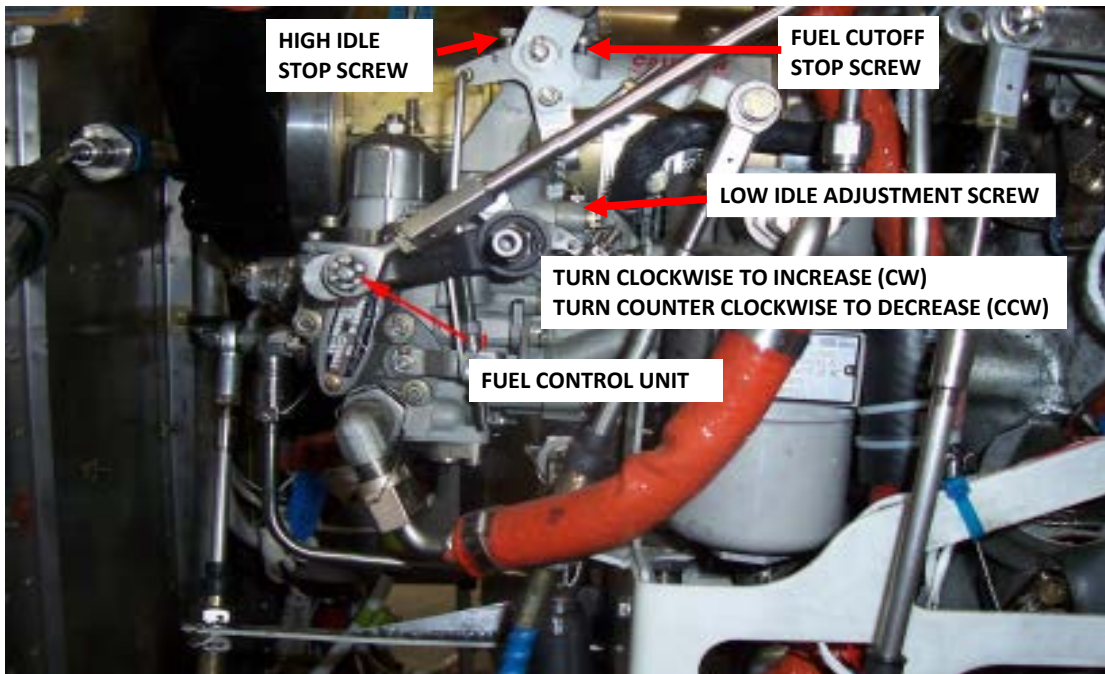

Figure 2
5 If Ng is not within Low Idle Limits, adjust the low idle speed adjustment screw (REF FIGURE 2). Remove safety wire from adjustment screw and jam nut. Loosen nut and rotate adjustment screw counterclockwise (CCW) to reduce idle speed, and clockwise (CW) to increase idle speed. Due to the sensitivity of the adjustment screw, you must turn the adjustment in very small amounts and hold the adjustment screw with an allen wrench while tightening the jam nut to prevent further rotation of adjustment screw. Adjust idle speed screw as required. 52.5% -55.5% Ng and Np above 1060 RPM minimum for Four Bladed Propeller installations.